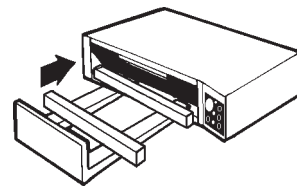

Fig. 15 Lifting of section with fork-lift truck.
- Now lift off one section at once (Fig. 15).